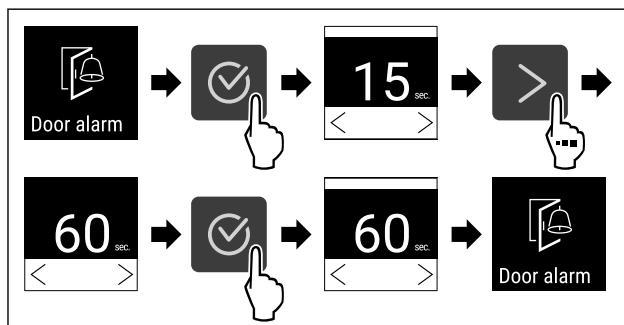

Fig. 120
- ▶ Complete steps (see Fig. 120).